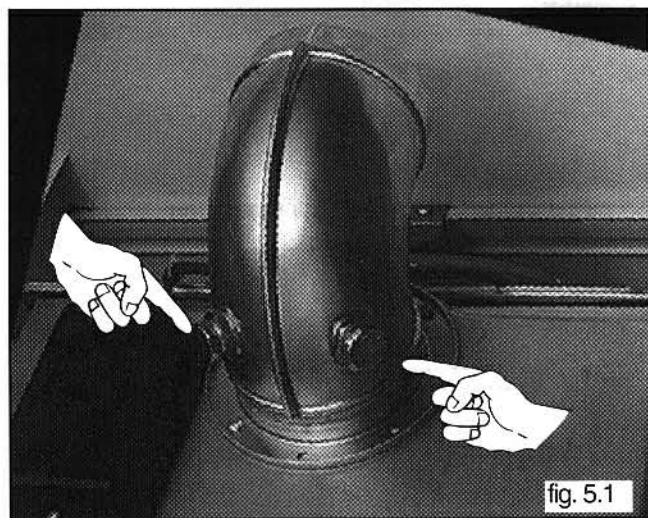

fig. 5.1
- Check all clamps, gaskets and fixings are secure and tight. To check the exhaust gas, remove the screw indicated in fig. 5.1 and connect the analyser to the flue gas sampling point.